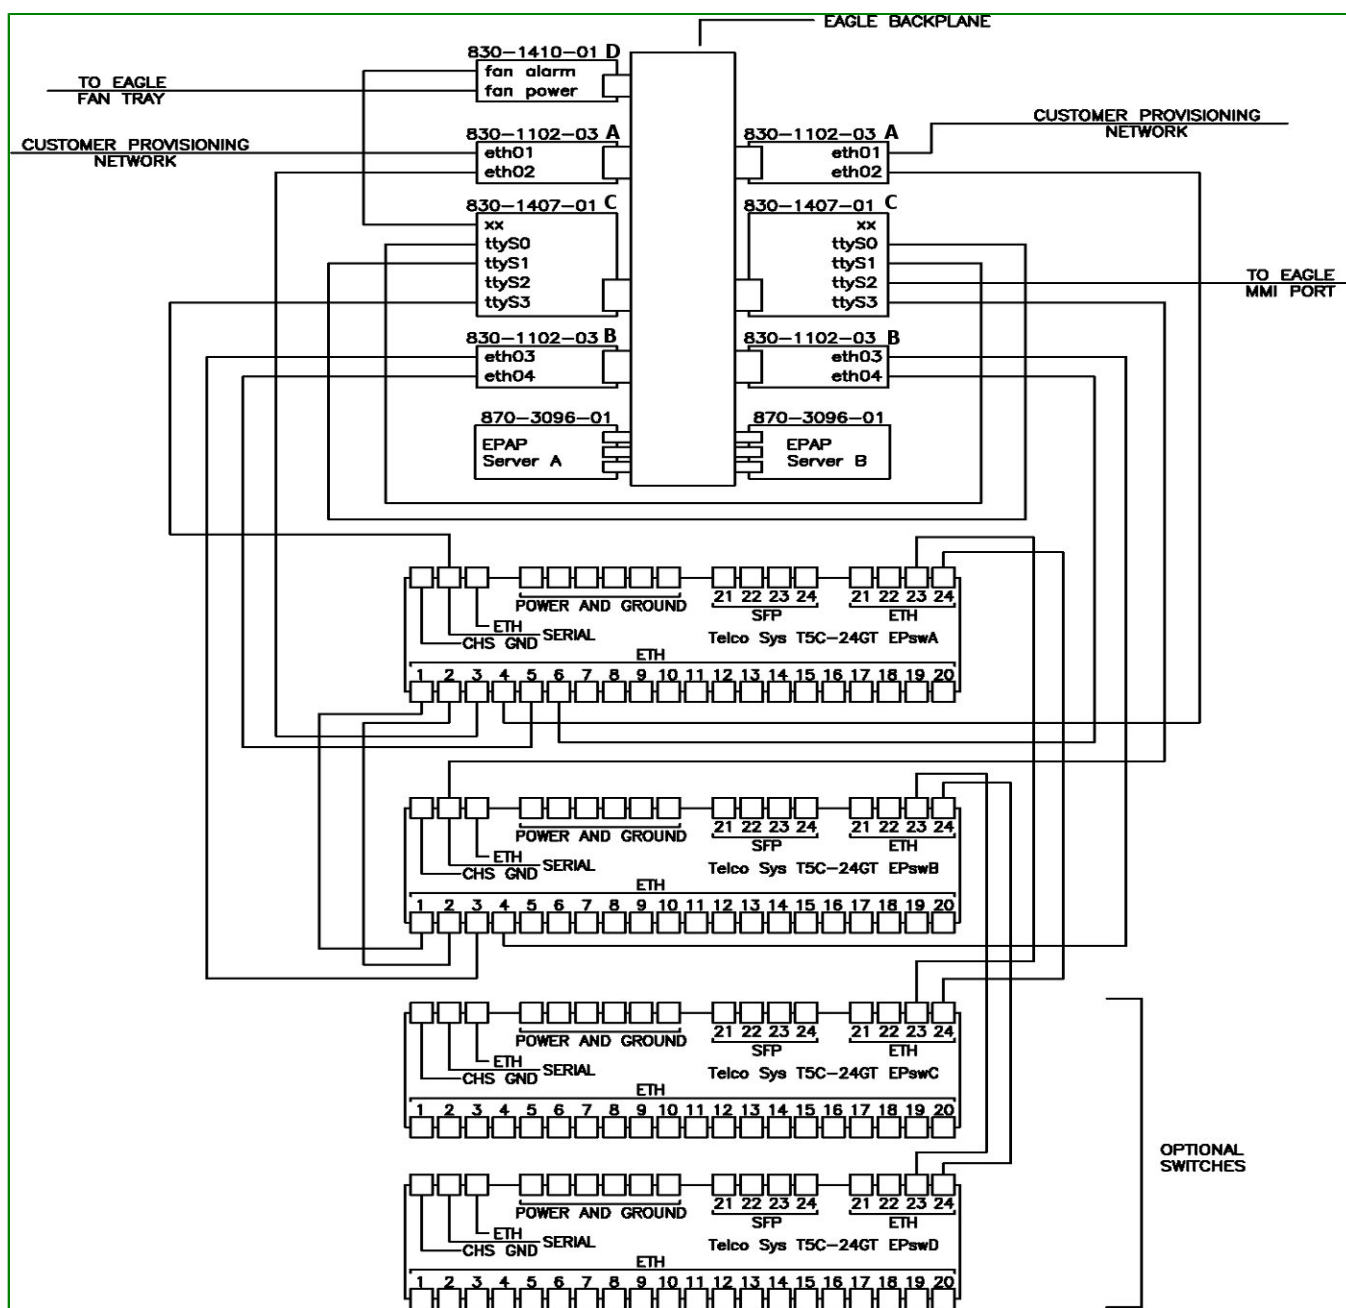
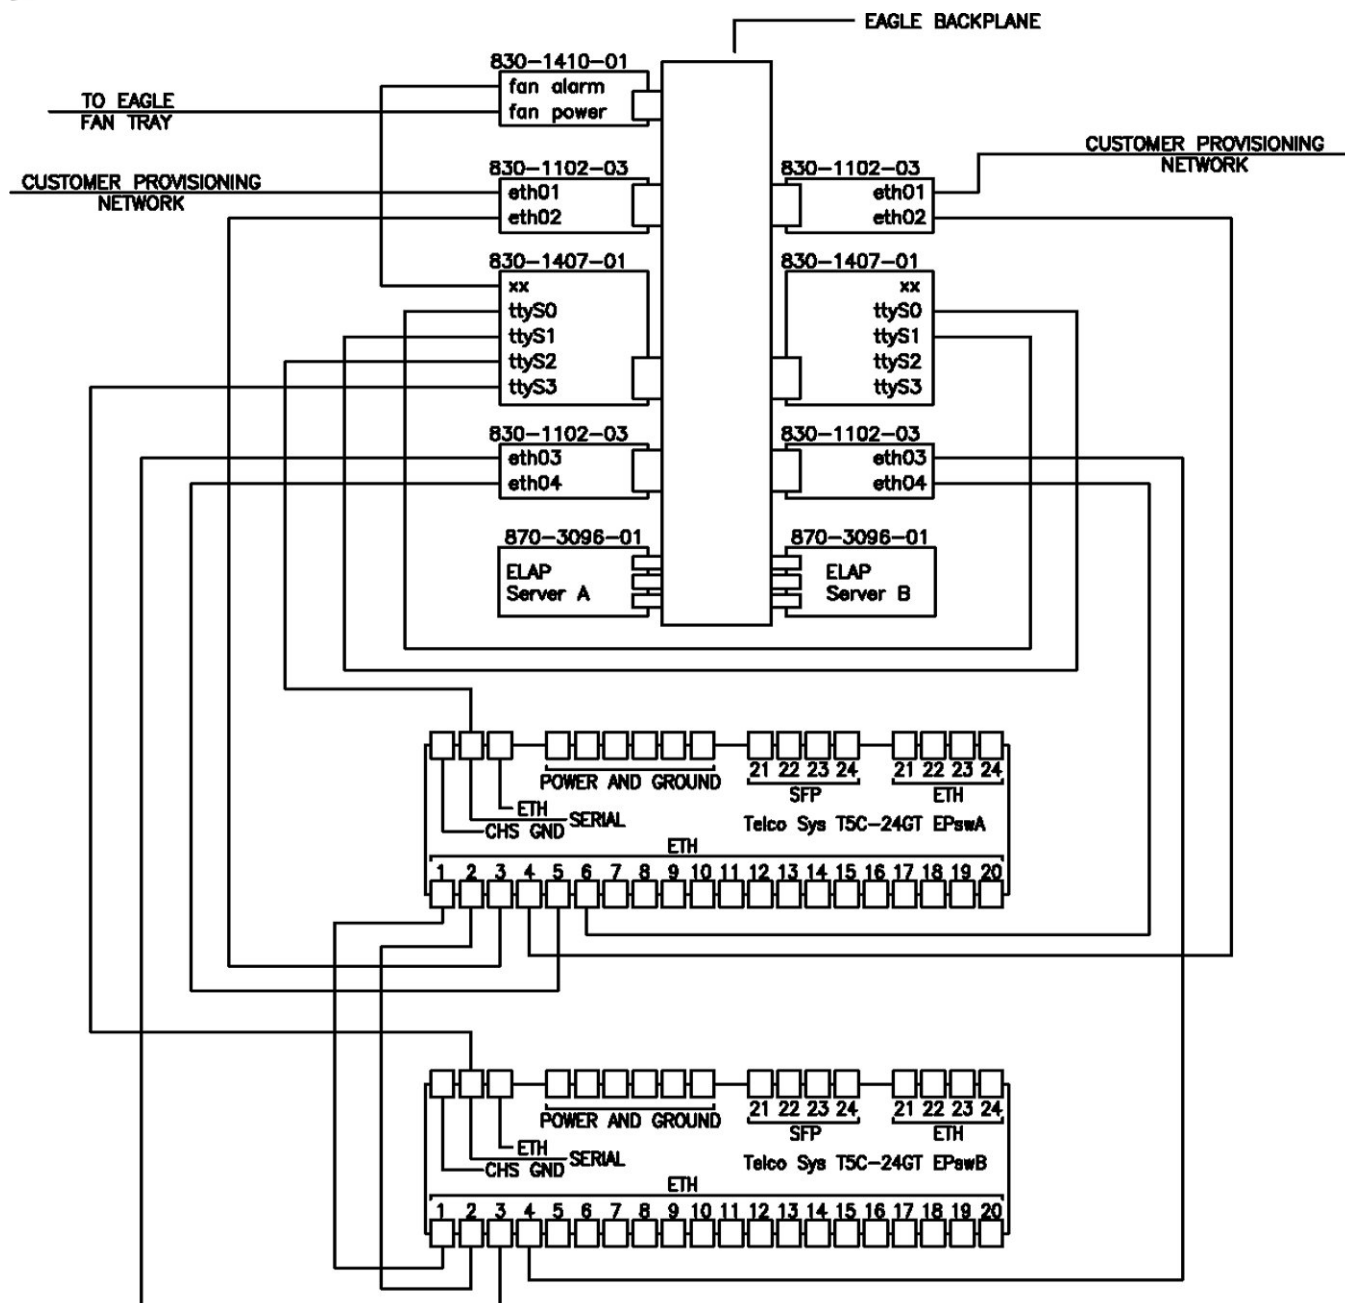

Figure 16: EPAP Network Connections
Figure 17: ELAP Network Connections
▶ ELAP and EPAP provide network connections to allow interaction with SMs, other MPS Servers, and the remote provisioning system. There are four network connections. Network Overview, Figure 16: EPAP Network Connections, ▶ Figure 17: ELAP Network Connections ◀ and ▶ Table 9: ELAP Interconnect Table ◀ illustrate the networks and how they are connected. ◀